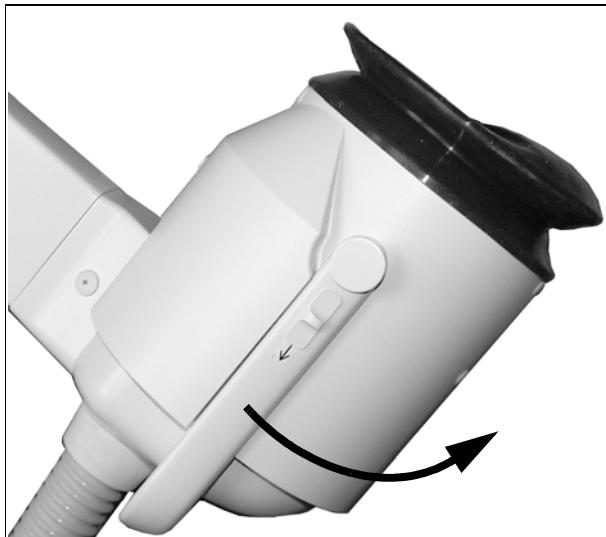
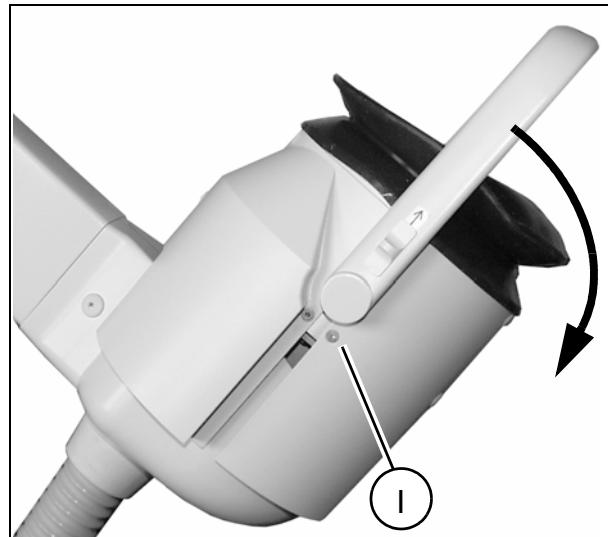

Fig. 1
Fig. 2
- Remove the mounting screws (I/Fig. 2) for the upper cover on both sides of the shock head.
- Push the buttons in the direction of the arrow on both sides of the iso-center phantom (Fig. 2) and at the same time flip the iso-center phantom back (Fig. 1).
- Push the buttons on both sides of the iso-center phantom in the direction of the arrow (Fig. 1) and at the same time flip the iso-center phantom up (Fig. 2).